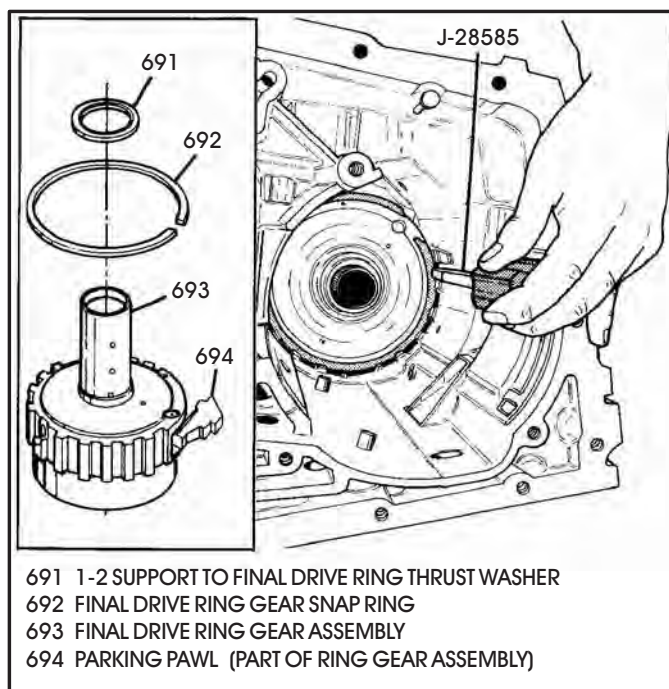

Figure 165
1. Install the final drive ring gear into the case and install snap ring, as shown in Figure 165.
Note: Ensure that thrust washer or bearing is in place on ring gear (See Figure 165).